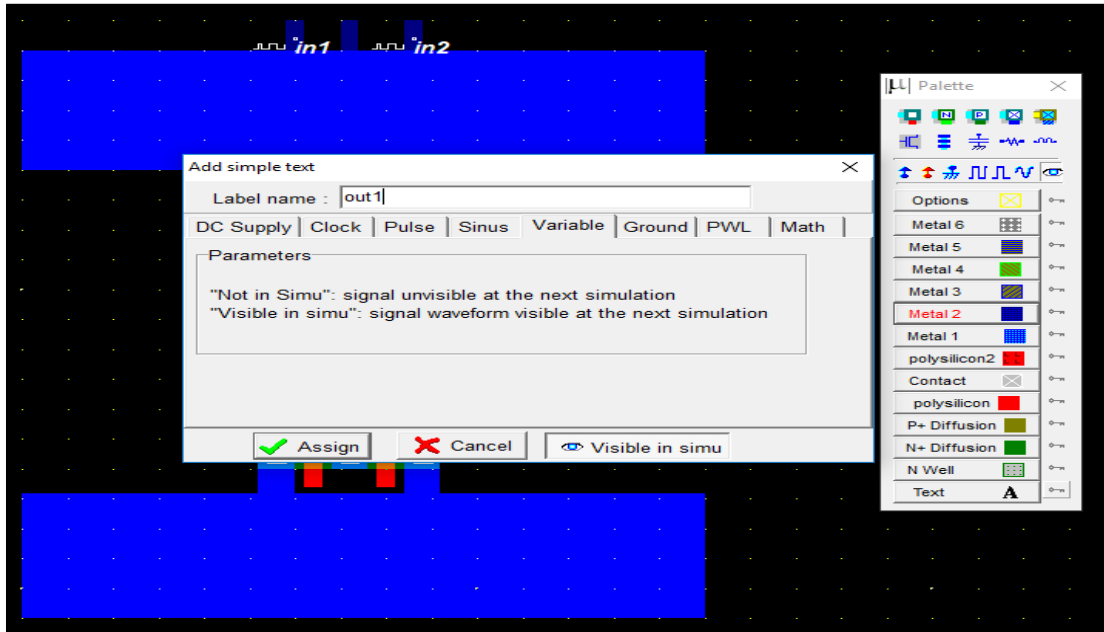

Figure 44: label the output
- Select Vdd Supply and GND from the palette (third row). Also click on the capacitor (3rd in 2nd row) symbol and add it to the output. Also, extend the pwell into the Vdd Rail. The click on Edit -> Generate -> Contacts. Select PATH and then in Metal choose Metal1 and N+ polarization. See figure44: